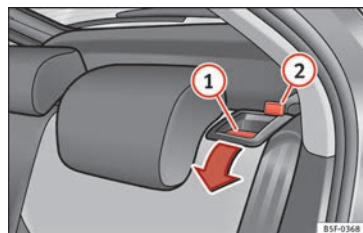

Fig. 154 Backrest release lever.
- Press the release lever » **Fig. 154 ①** in the direction of the arrow.
- Raise the backrest until it engages in its upright position » **△**. The red marking on the tab » **Fig. 154 ②** should no longer be visible when the backrest is properly secured.